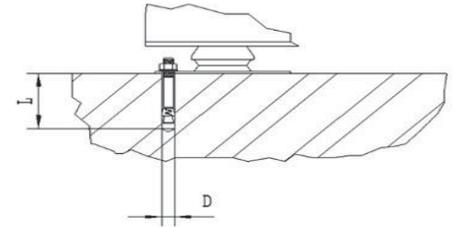

FIGURE-2.6
- Drill the floor as shown in Figure-2.6.